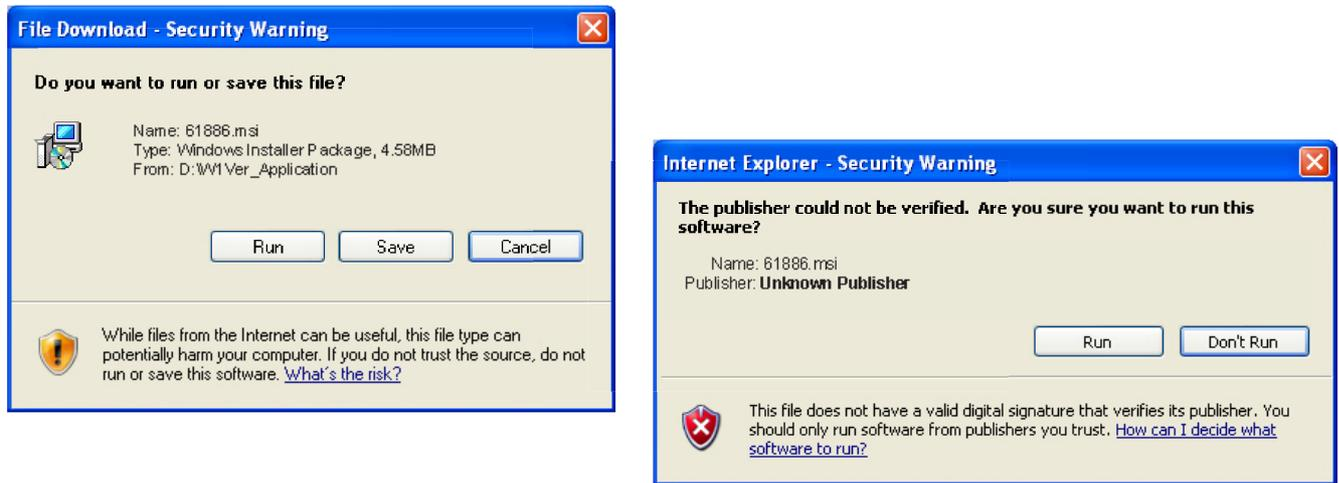

Figure 6-2. Installation Security Dialog Boxes – Click Run on each
6. The first of several installation dialog boxes appears as shown in Figure 6-2.